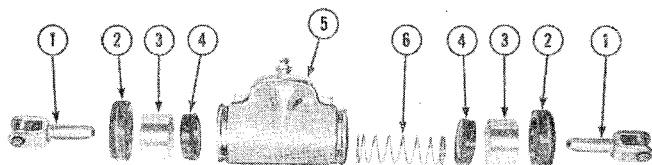

Figure 13-6
Remove the rods (1, Fig. 13-6) and boots (2). Slide the pistons (3) cups and spring (6) from the cylinder (5).
Slide the spring (6, Fig. 13-6), cups (4) and pistons (3) into the bore of the cylinder (5). Install the boots (2) and rods (1).